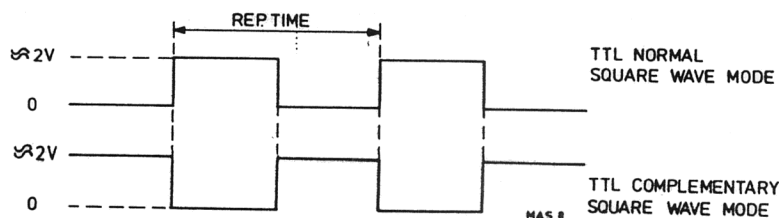

Fig. VI-5 Square wave PM 5705
- Observe one normal TTL pulse and its complement similar to fig. VI-5.